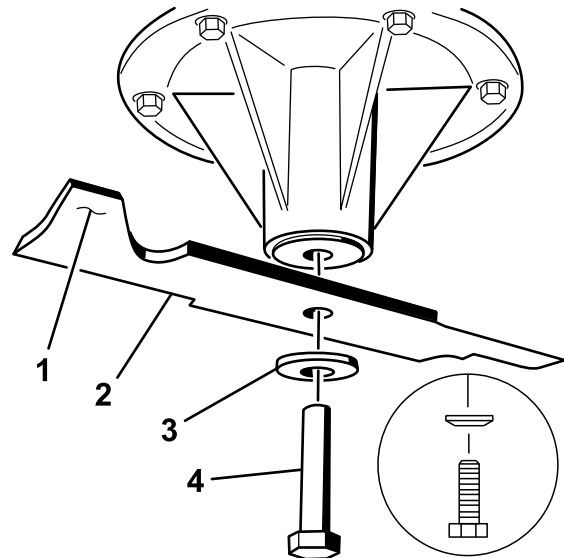

Figure 96
2. Remove the blade bolt, curved washer, and blade from the spindle shaft (Figure 96).
- If the blade is not balanced, file some metal off the end of the sail area only (Figure 96).